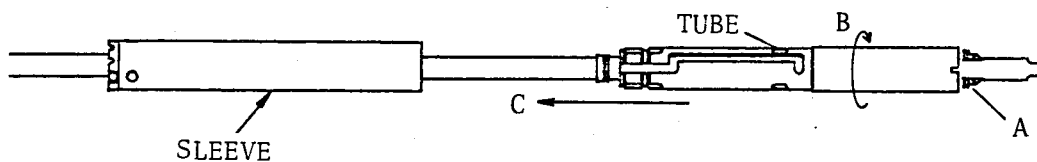

Figure 6-7. Tube Removal
- a. Hold the probe with a wrench at position **A** as shown in Figure 6-7.
- b. Remove the TUBE by rotating it in the direction of arrow **B** as shown in Figure 6-7.
- c. Slide the TUBE in the direction of arrow **C** as shown in Figure 6-7.